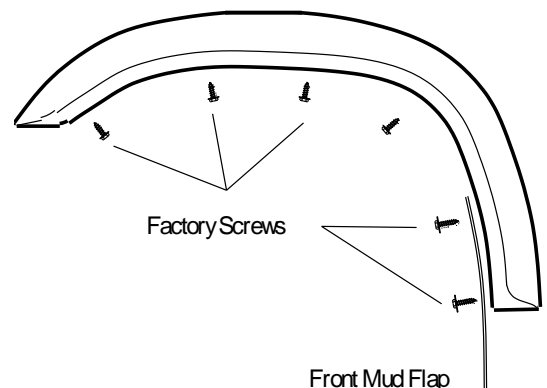

FIGURE 2
- (A) Remove the screws securing the mud flap and factory fender trim (when installed) along inside rim of wheel wells.
- (B) Drill 5/16" holes along the inside surface of the flare using indents as a guide.
- (C) Secure flare and mud flap to fender through 5/16" holes using screws removed in Step 3A or screws provided with kit. See FIGURE 2. Insert screws through the flare into the plastic screw retainers along the inside of the wheel well rim.